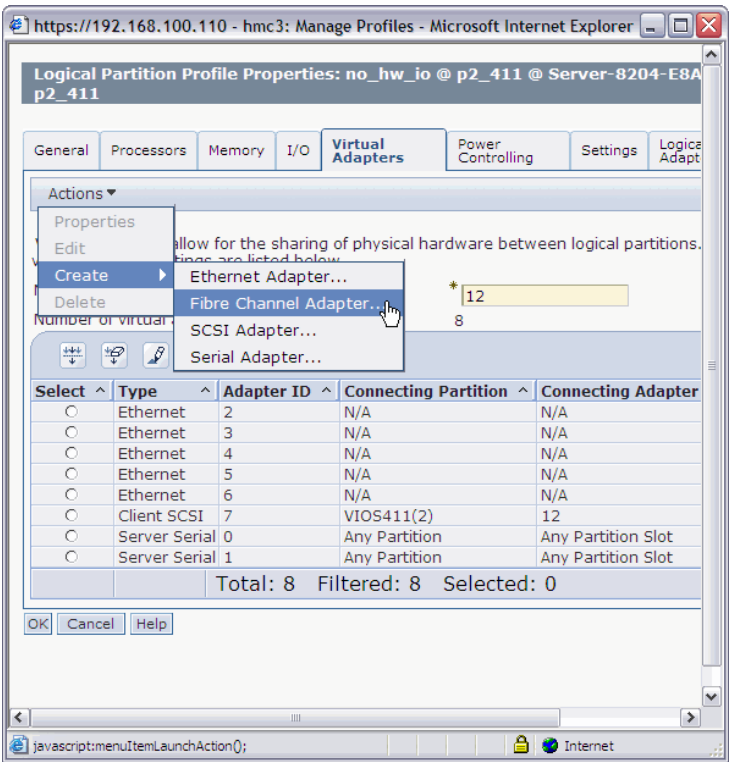

Figure 5-18 Resource Creation panel
- b. Using the **Actions** drop-down box, as in Figure 5-18, select **Create** → **Fibre Channel Adapter**.